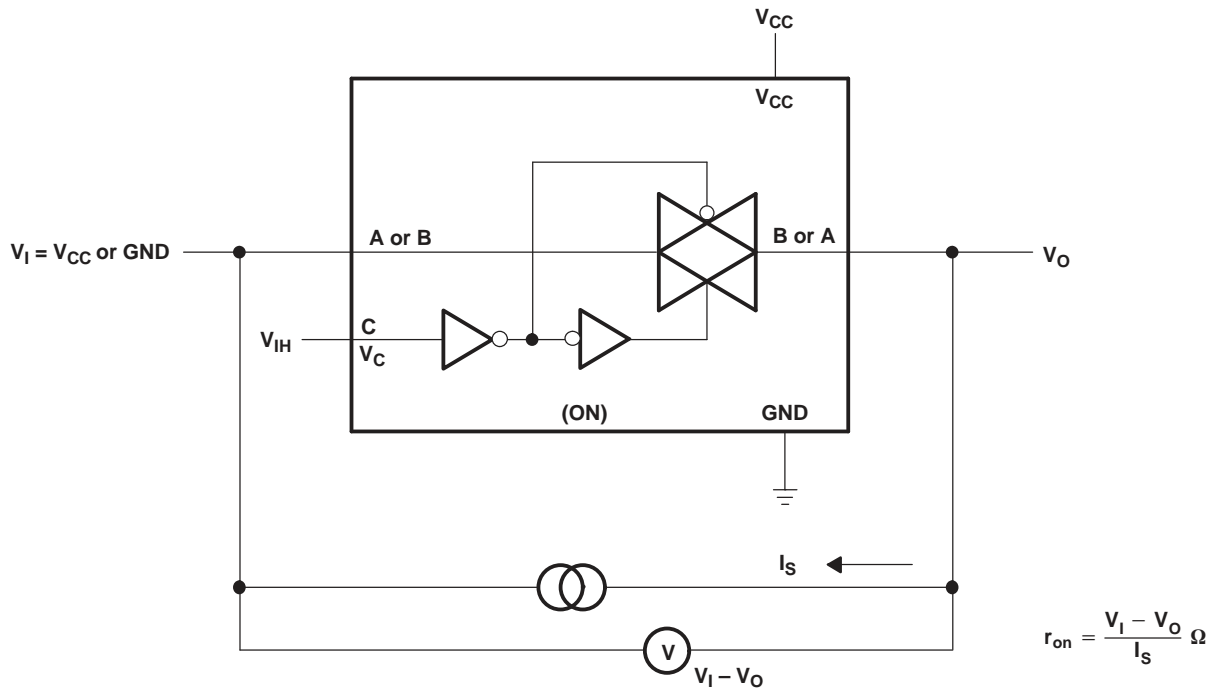

Figure 1. On-State Resistance Test Circuit
(1) All unused inputs of the device must be held at V_{CC} or GND to ensure proper device operation. Refer to the TI application report, *Implications of Slow or Floating CMOS Inputs*, literature number SCBA004.
(2) The data was taken at C_L = 15 pF, R_L = 2 kΩ (see Figure 1).
(3) The data was taken at C_L = 30 pF, R_L = 500 Ω (see Figure 1).
(1) t_a = 25°C